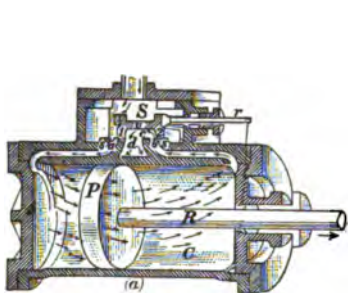
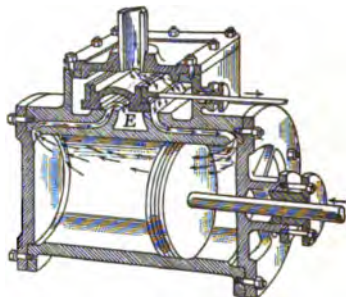

FIG. 158.—Cross-section view of cylinder and steam chest of a steam engine.
FIG. 159.—The steam drives the piston to the left.
**193. The Steam-engine.**—The man who perfected the steam-engine, and devised its modern form was *James Watt* (1736–1819). The essential parts and the action of the steam engine may be readily understood by studying a diagram. In Fig. 158, *S* stands for *steam chest*, *C* for *cylinder*, *P* for *piston* and *v* for *slide valve*. The first two are hollow iron boxes, the latter are parts that slide back and forth within them. The action of the steam engine is as follows: Steam under pressure enters the steam chest, passes into the cylinder and pushes the piston to the other end. The slide valve is moved to its position in Fig. 159. Steam now enters the right end of the cylinder, driving the piston to the left, the “dead” steam in the left end of